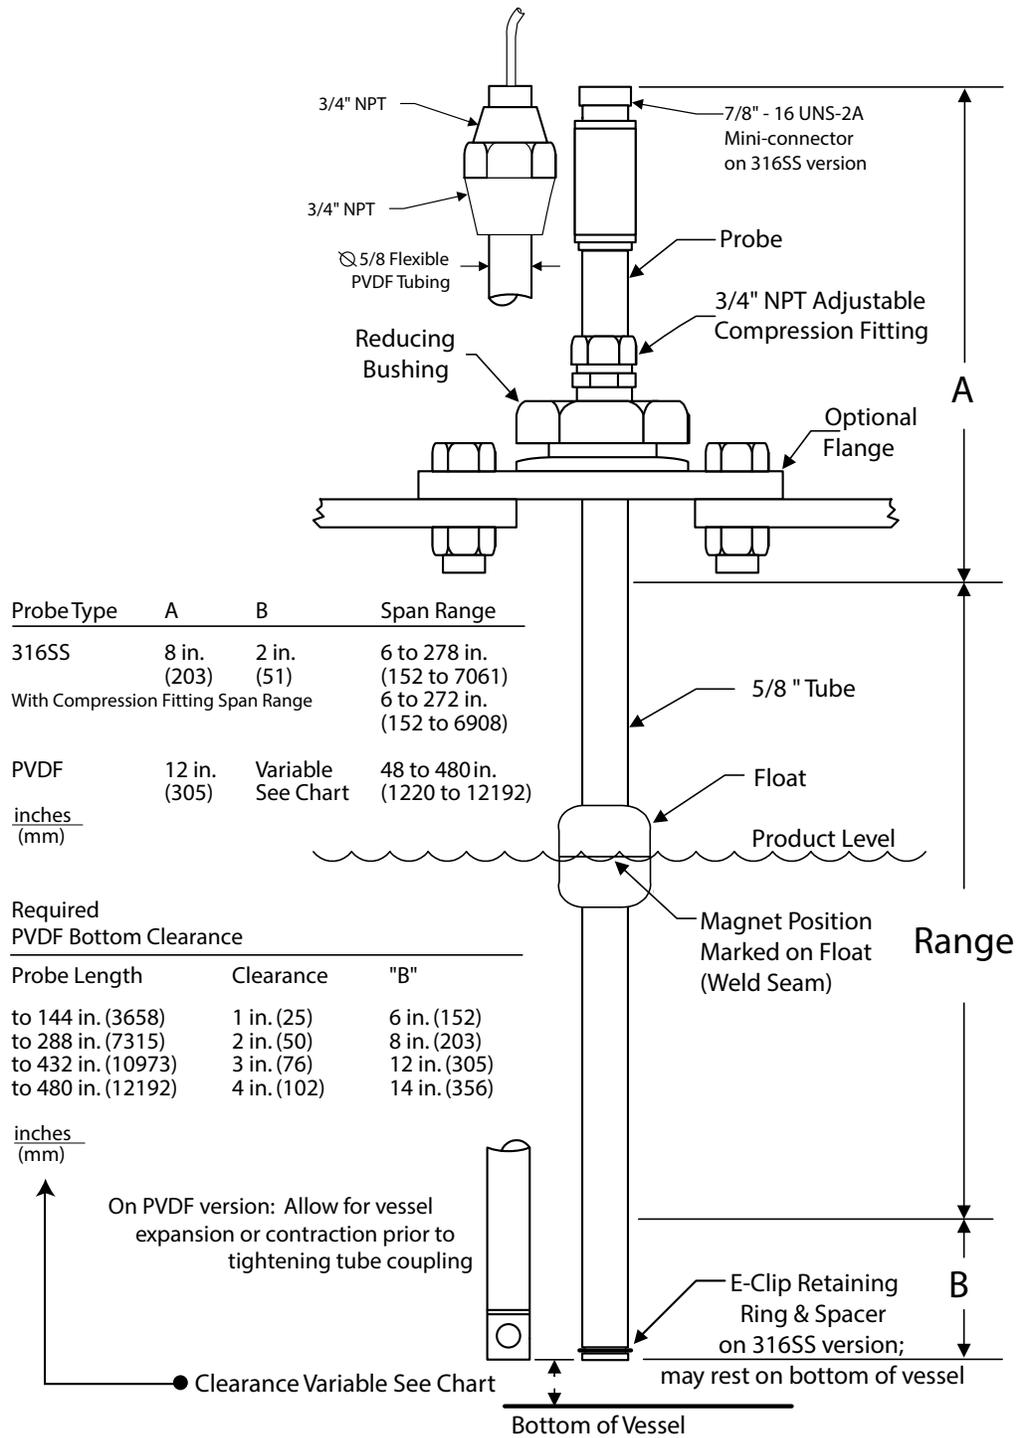

Figure 2-1 Installation Diagram
- Mount the probe perpendicular with gravity. See Figure 2-1.